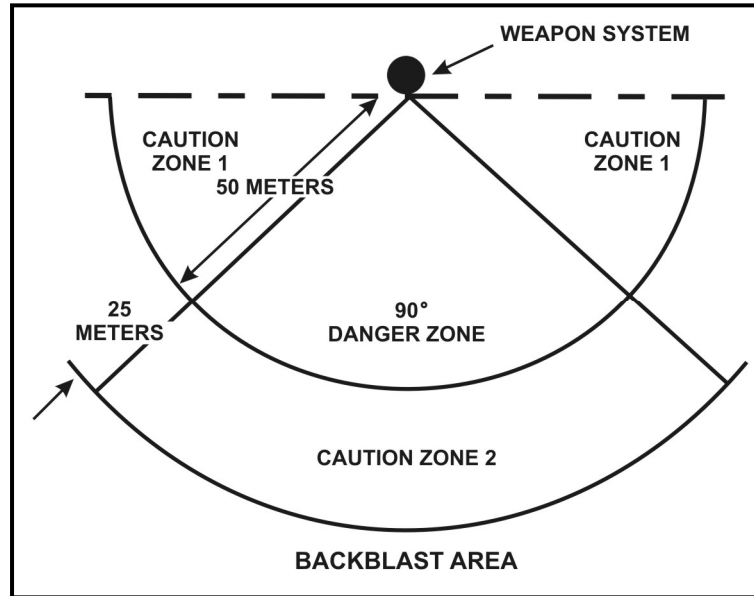

Figure A-1. TOW backblast area.
b. The caution zone extends an additional 25 meters to the rear of the danger zone. In this zone, a soldier is safe provided he does not face the aft end of the launcher. During training, the caution zone must be clear (Figure A-1, page A-2). (For further information on ITAS firing limitations, see Chapter 2.)